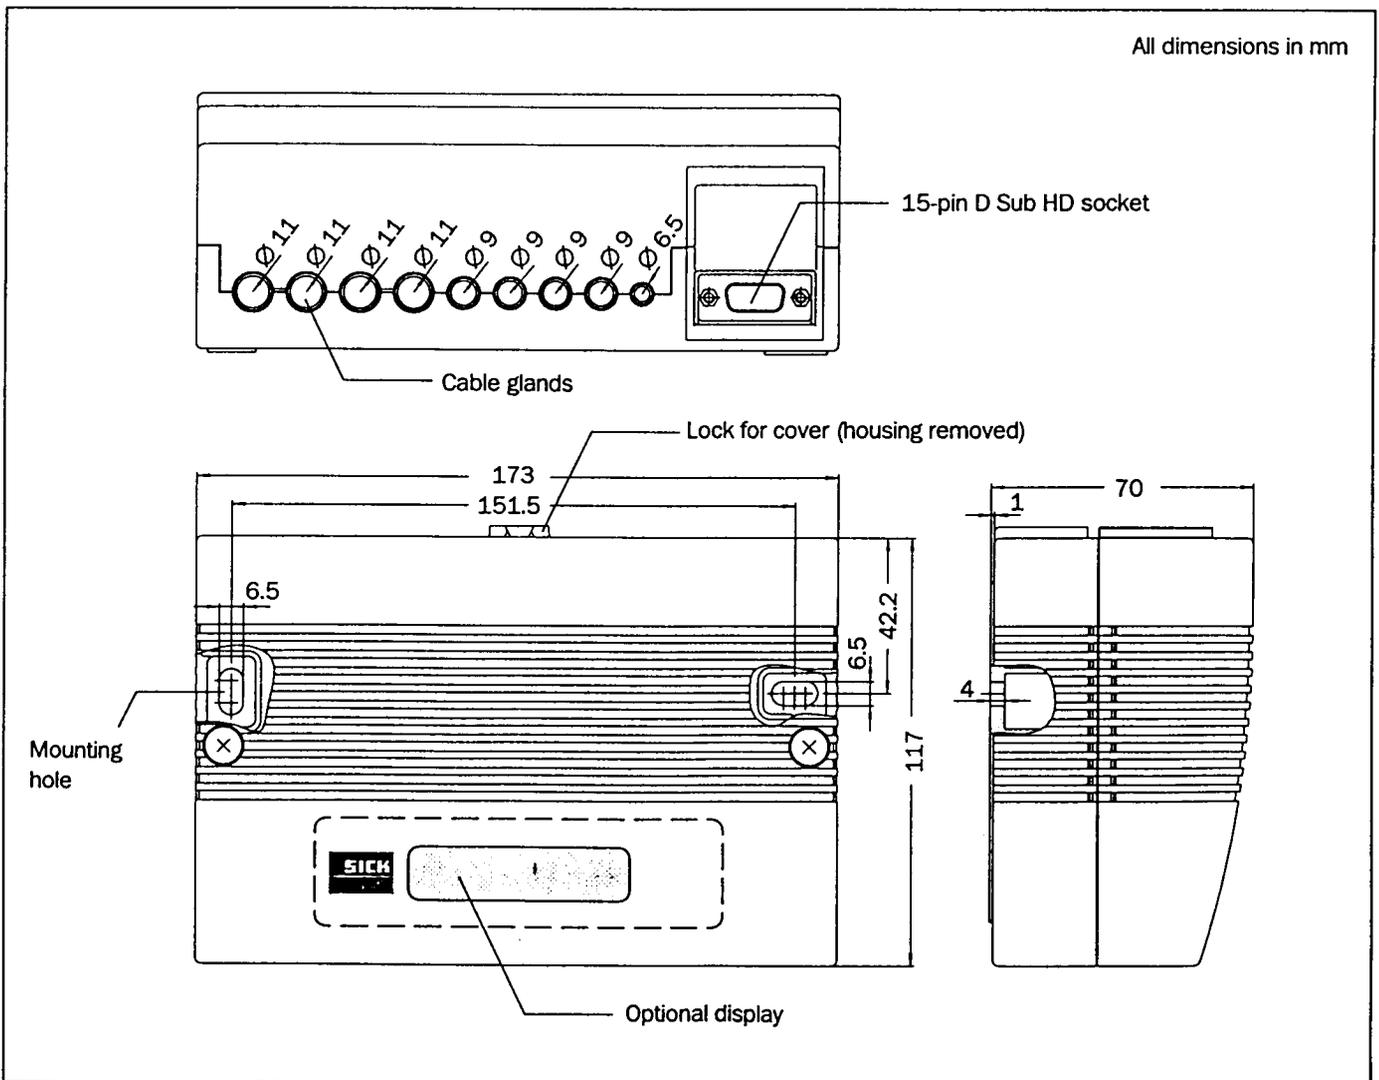

Fig. 8. Dimensions of AMV/AMS 40
- ▶ Mount the AMV/AMS near the bar code scanner. The two holes with elongated slots in the screw shafts under the device cover are used for this purpose (*Fig. 1*). The hole diameters are shown in *Fig. 8*, Page 7. Matching screw diameter: up to 6 mm.